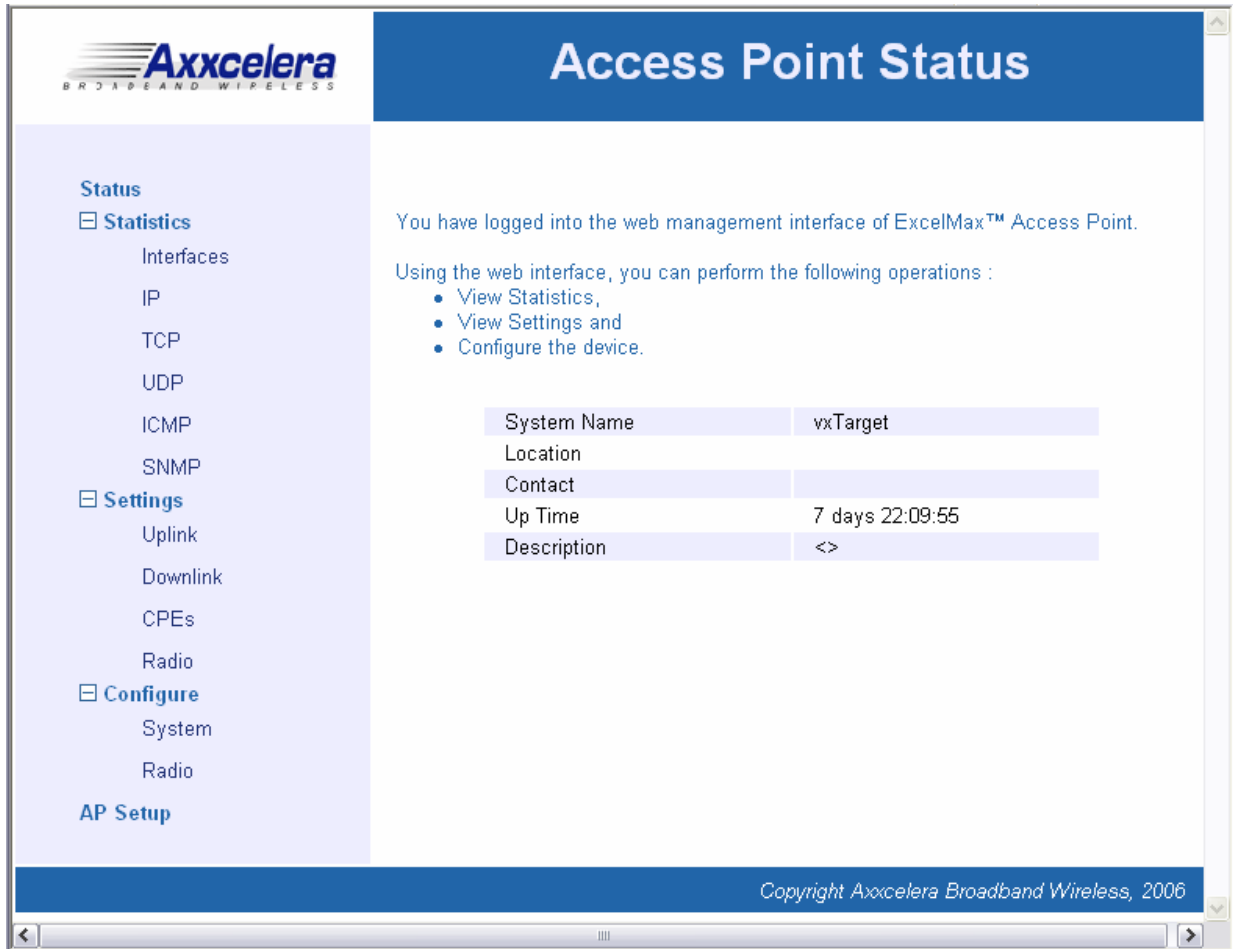

Figure 9-1 Access Point Status screen
- 5) When the **Access Point Status** screen appears, (Figure 9-1), click on **AP Setup** from the screen menu.